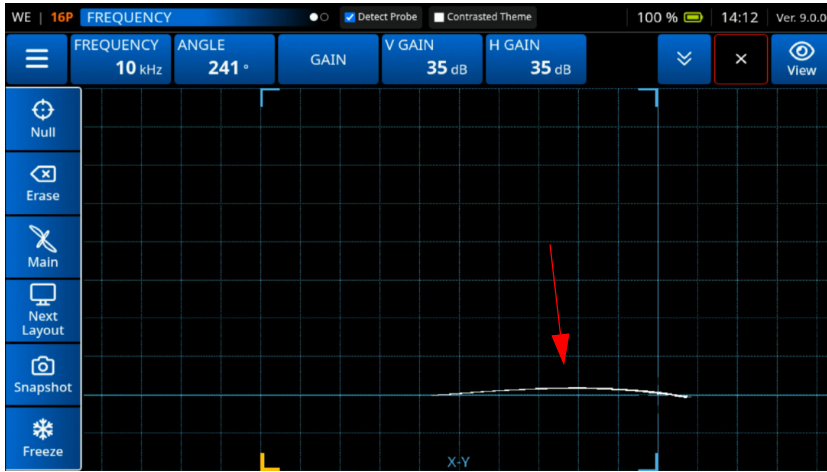

Figure 3-43 Confirm the Lift Off Setting
5. Confirm the lift off setting (See Figure 3-43 on page 76).